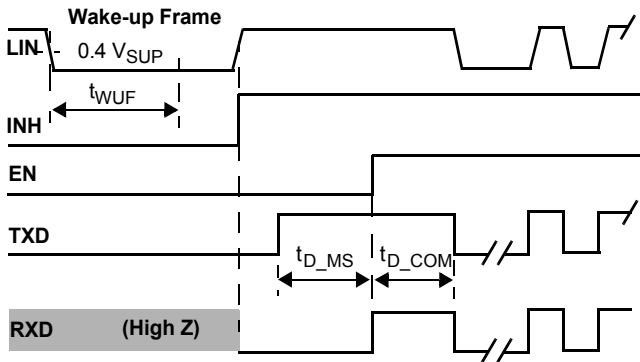

Figure 11. LIN Bus Wake-up and Normal Baud Rate Selection (1.0 kbps to 20 kbps)
11. See Figures 11 and 12, 11.
The LIN bus wake-up is recognized by a recessive-to-dominant transition, followed by a dominant level with a duration greater than 70  $\mu$ s, followed by a dominant-to-recessive transition. This is illustrated in Figures 11 and 12. Once the wake-up is detected, the 33661 enters the Awake Transitional mode, with INH High and RXD pulled Low.